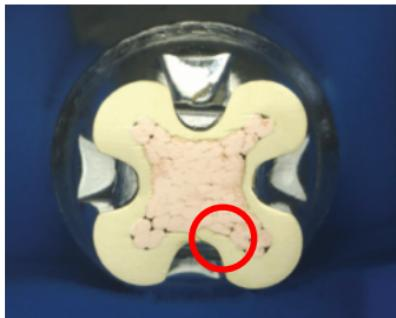

Figure V-2: Micro-section of a defective sample with cracks
- Contact over-crimped with cracking of the contact barrel (Figure V-2)